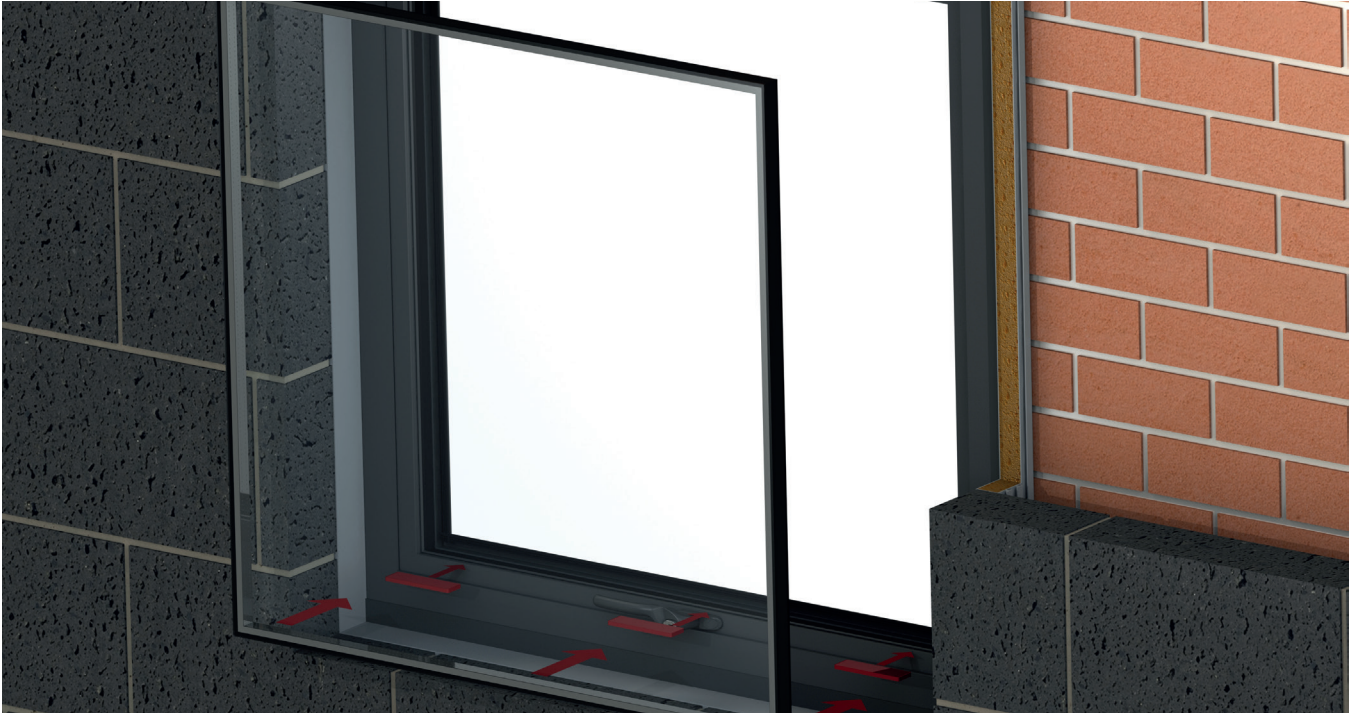

FIG 4
- ▶ **2.4.** Place glazing shims in the bottom of the glazing chamber spaced approximately 2" in from each corner and no more than 18" centres. (Fig.4)